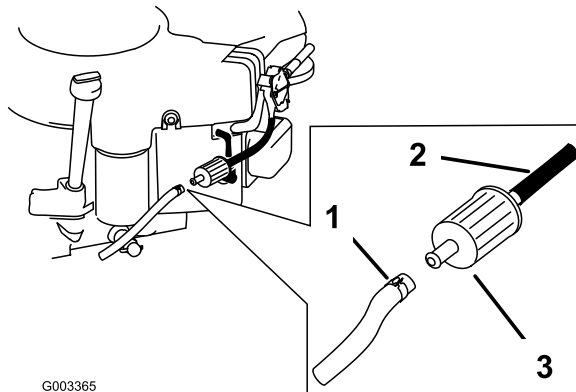

Figure 30
4. Loosen the hose clamp at the fuel filter and slide it up the fuel line away from the fuel filter (Figure 30).
5. Pull the fuel line off of the fuel filter (Figure 30).
7. Install the fuel line onto the fuel filter. Slide the hose clamp close to the fuel filter to secure the fuel line (Figure 30).
4. Squeeze the ends of the hose clamps together and slide them away from the filter (Figure 30).
6. Install a new filter and move the hose clamps close to the filter (Figure 30).